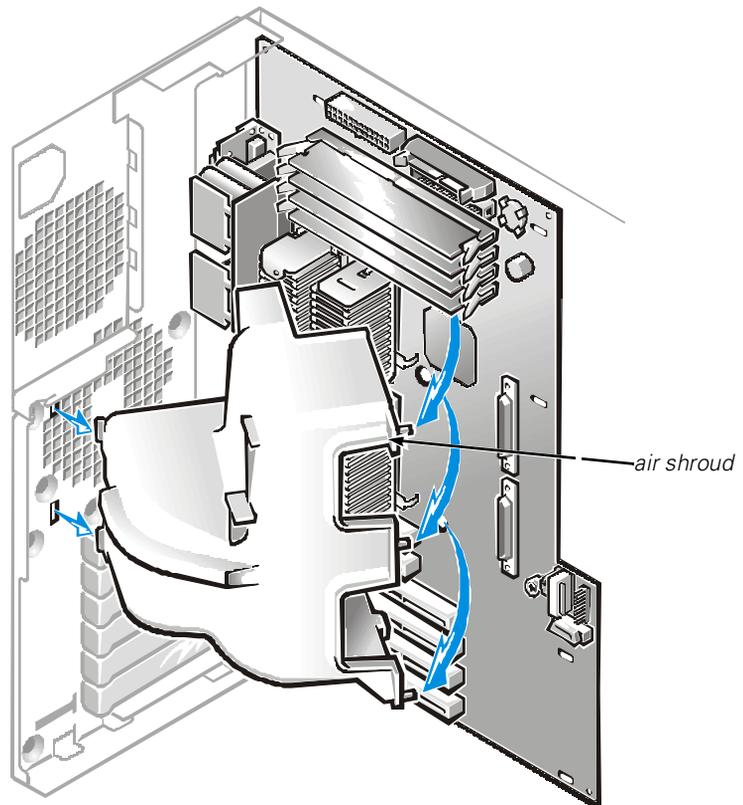

Figure 8-8. Removing Air Shroud
3. Remove the air shroud by rotating the shroud away from the system board and lifting it away from the back of the chassis (see Figure 8-8).